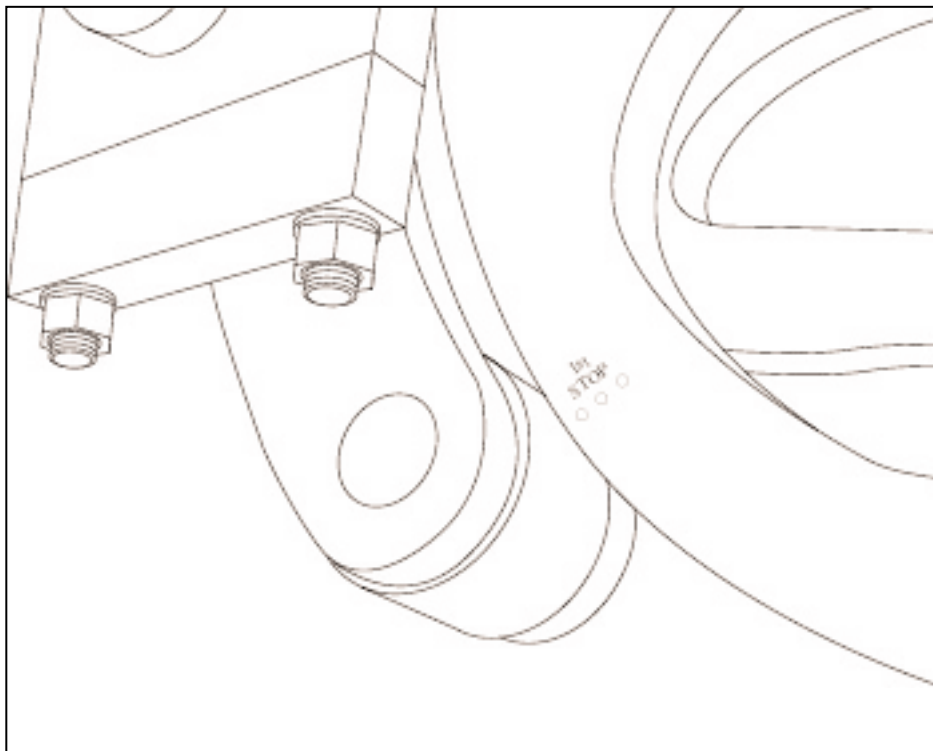

Figure 4.47 "FIRST STOP" (R.H. side of machine)
4.4.1 Run machine to "first stop" (see figure 4.47)